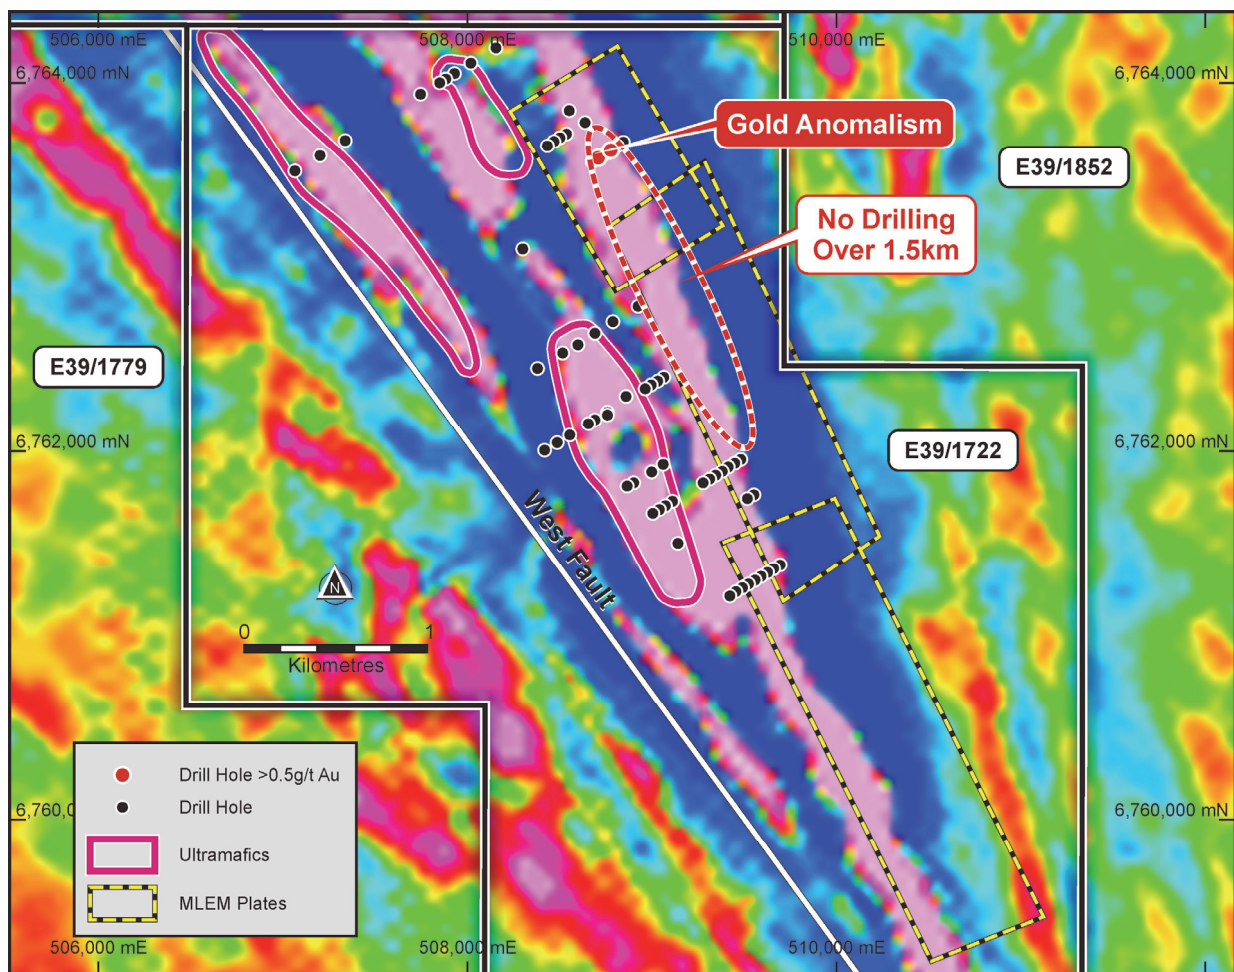

Figure 1 – the Cambridge North prospect (against TMI magnetics). The eastern magnetic trend is prospective for gold mineralisation and is untested.
Historical shallow drilling at the prospect area was primarily focused on exploration for nickel laterites in the central magnetic trend over high-MgO ultramafics; see Figure 1. This drilling comprised mostly shallow RAB and RC drilling (average hole depth 38m). Other drilling in the target area comprised wide-spaced shallow RAB drill holes testing for gold mineralisation.
Figure 1 illustrates the prospective target area on the strong eastern magnetic (and gravity) trend. Three extensive moving loop electromagnetic (EM) plates occur over 6km strike along this trend and are likely to represent banded iron formations and/or highly sulphidic units.